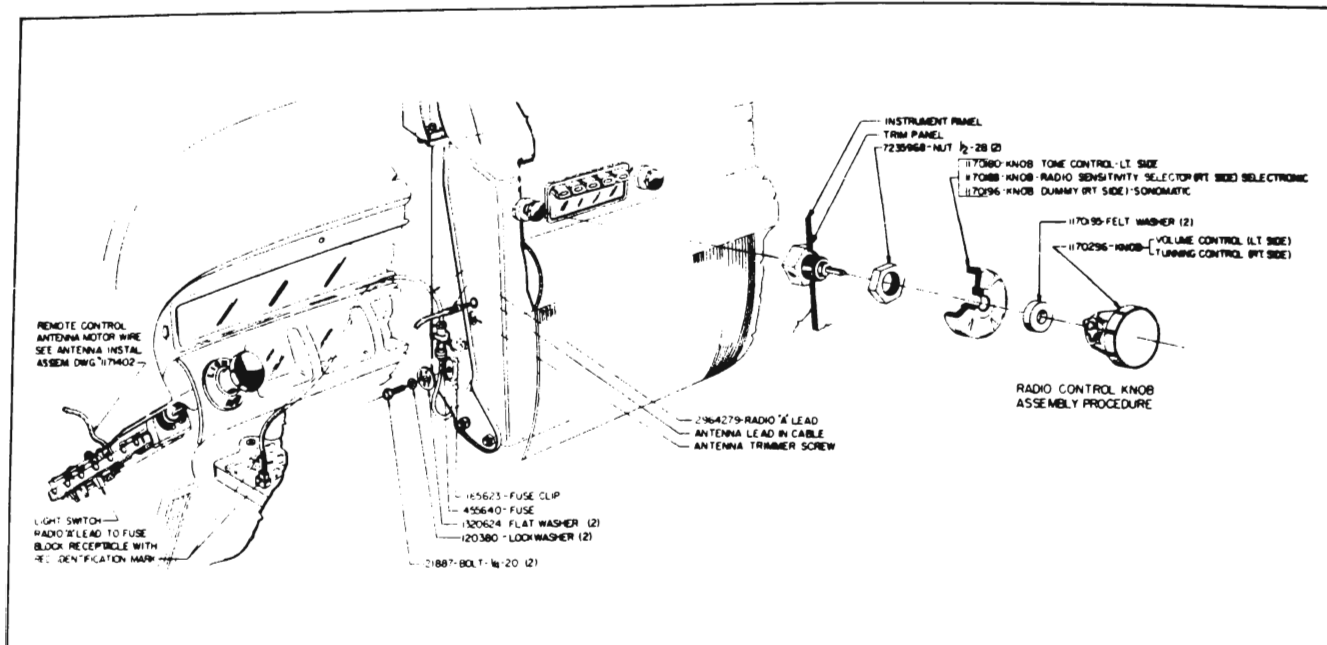

Figure 11-2—Receiver Installation
3. Remove left ash tray. Insert a screwdriver through the opening and into left side of receiver adjacent to the lead-in cable (fig. 11-2). Carefully turn the trimmer screw back and forth until a position is found that gives maximum volume.
See figure 11-2.
6. Connect the "A" lead cable to the red terminal on the fuse block. *Never connect to any other terminal.* Install proper fuse (par. 10-5, b) in fuse holder and connect "A" lead cable to lead at left lower corner of receiver. Install fuse holder in clip on support bracket. See figure 11-2.
8. If *Selectronic* foot control was disconnected or removed, reinstall with cable running up behind left edge of steering column pad. Plug cable into receiver and attach it to clip on receiver cover. See figure 11-2.